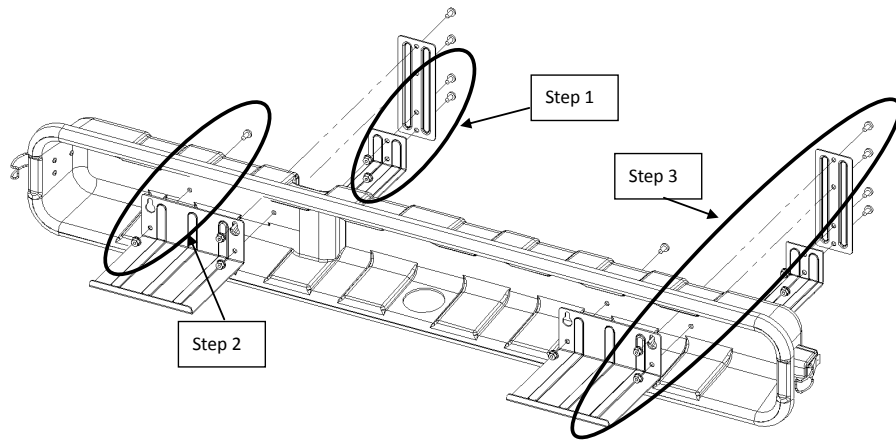

Figure 2
1. Connect the Foot Bottom Bracket and Foot Top Bracket using two (2) S3 screws and two (2) N2 nuts. Repeat for 2nd bracket. See Figure 2.
2. Attach the Soundbar Mounting Bracket to the Storm Shell Back by aligning the four holes in the Soundbar Mounting Bracket and the four holes in the Storm Shell Back. Place one (1) S3 screw from the backside of the Storm Shell Back through the lower left hole. Fasten with a N2 nut. Repeat for 2nd bracket. See Figure 2.
3. Attach the Foot Top Bracket to the Storm Shell Back using two (2) S3 screws. The S3 screws are placed from the backside of the Storm Shell Back and will pass through the Storm Shell Back and Soundbar Mounting Bracket holes. Fasten the S3 screws with two (2) N2 nuts. Repeat for 2nd bracket. See Figure 2.